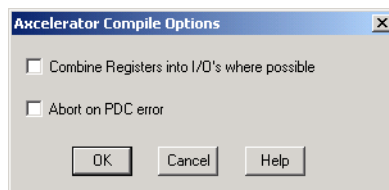
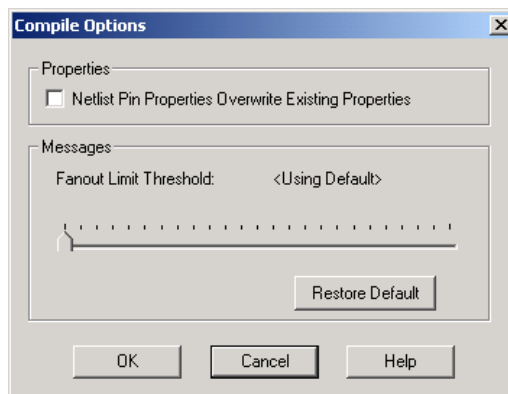

Figure 2-21. Compile Options Dialog Box, Accelerator Family
Figure 2-22. Compile Options Dialog Box, SX Family
- 1. From the Options menu, click *Compile*.** The compile option dialog box opens, as shown in Figure 2-21 and as shown in Figure 2-22. Options available from this dialog box are dependent upon your family.